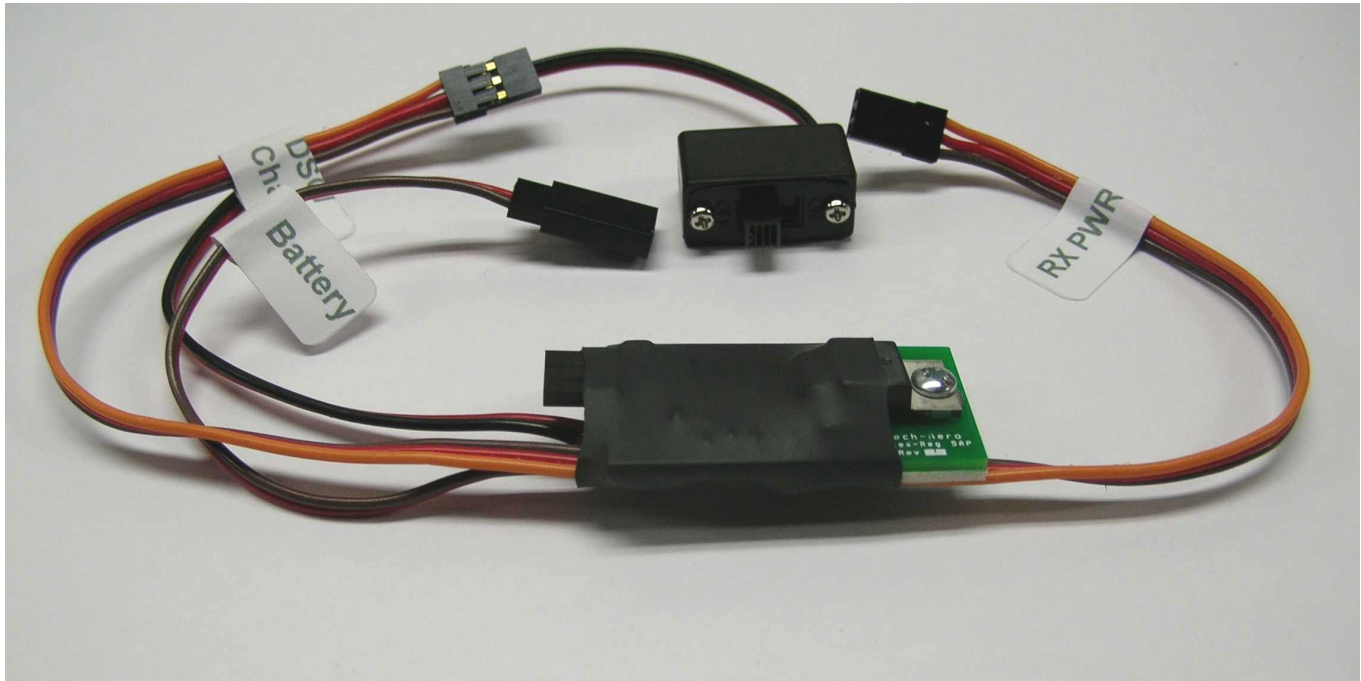

Figure 1 - Standard PLR5
- Battery voltage monitoring/charge port / DSC connection lead is standard (Figure 1)